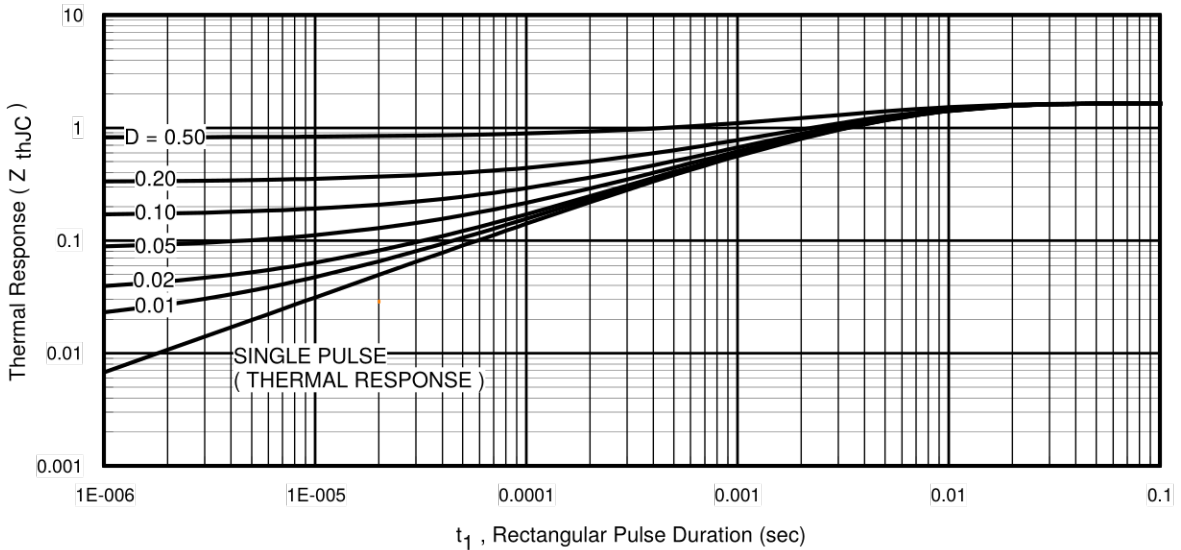
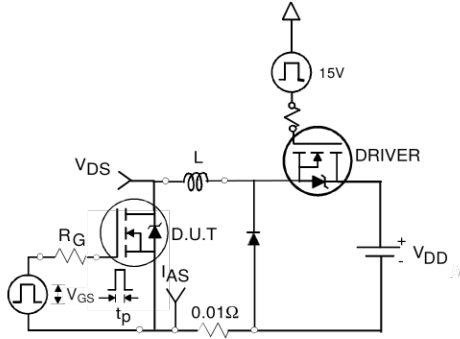

Fig 11. Maximum Effective Transient Thermal Impedance, Junction-to-Case
Fig 12a. Unclamped Inductive Test Circuit
3. Equation below based on circuit and waveforms shown in Figures 12a, 12b.
$Z_{thJC}(D, t_{av})$ = Transient thermal resistance, see figure 11)
- ① Repetitive rating; pulse width limited by max. junction temperature. (See fig. 11).
- ② Limited by T_{Jmax} , starting $T_J = 25^\circ C$, $L = 0.46mH$, $R_G = 25\Omega$, $I_{AS} = 20A$, $V_{GS} = 10V$. Part not recommended for use above this value.
- ③ Pulse width $\leq 1.0ms$; duty cycle $\leq 2\%$.
- ④ C_{OSS} eff. is a fixed capacitance that gives the same charging time as C_{OSS} while V_{DS} is rising from 0 to 80% V_{DSS} .
- ⑤ Limited by T_{Jmax} , see Fig.12a, 12b, 15, 16 for typical repetitive avalanche performance.
- ⑥ This value determined from sample failure population. 100% tested to this value in production.
- ⑦ This is only applied to TO-220AB package.
- ⑧ This is applied to D²Pak, when mounted on 1" square PCB (FR-4 or G-10 Material). For recommended footprint and soldering techniques refer to application note #AN-994.